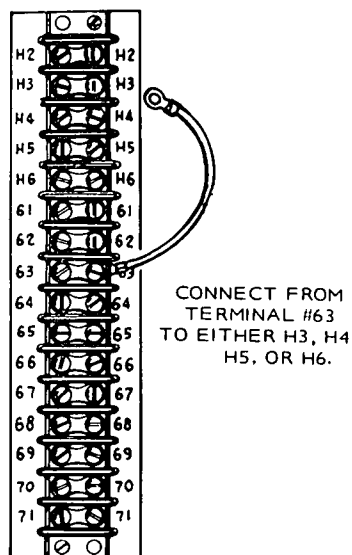

FIGURE 14. CONNECTING LEAD FROM TERMINAL 63
3. Open hinged control panel doors. Connect lead from terminal 63 to correct terminal for voltage desired. These terminals are labeled H2, H3, H4, H5 and H6. See Figure 14.